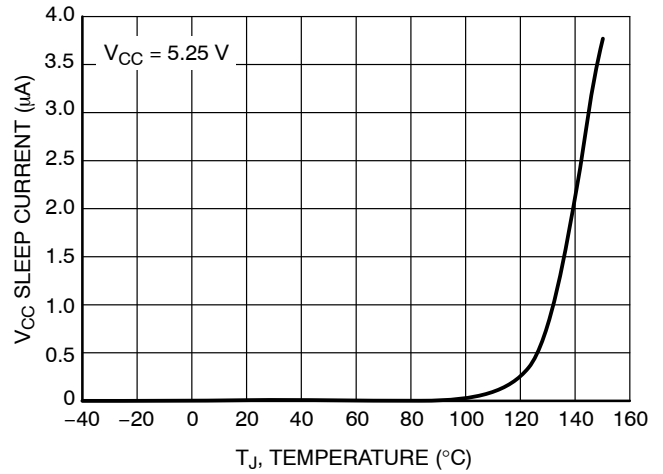

Figure 5. V_{CC} Sleep Supply Current vs. Temperature
6. For temperatures above 85°C , refer to Figure 5.